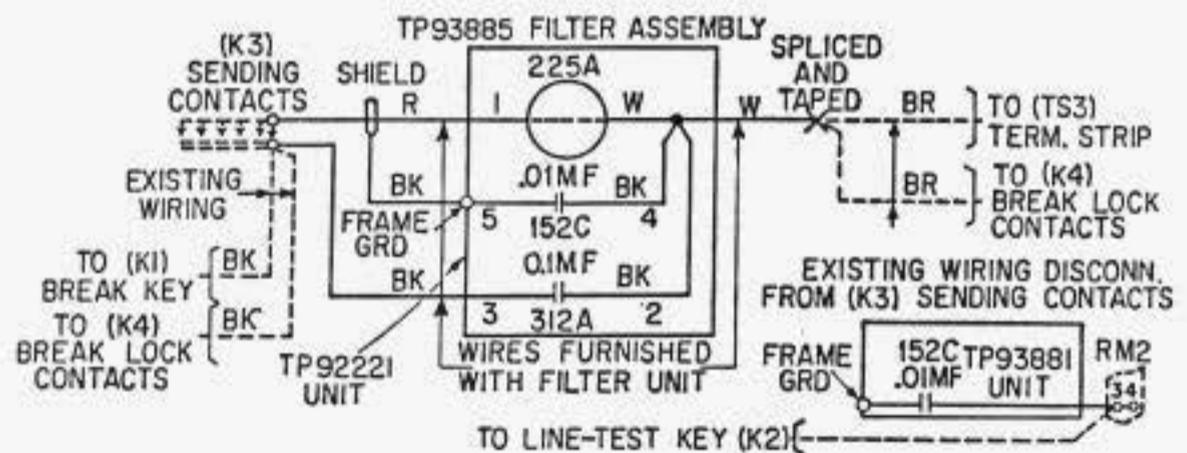

Fig. 1
- 2.09 Connect the black and red wires from the filter unit to the left and right terminals of the sending contacts respectively as shown in Fig. 1.
- 2.11 Check the connections of the filter with Fig. 1.